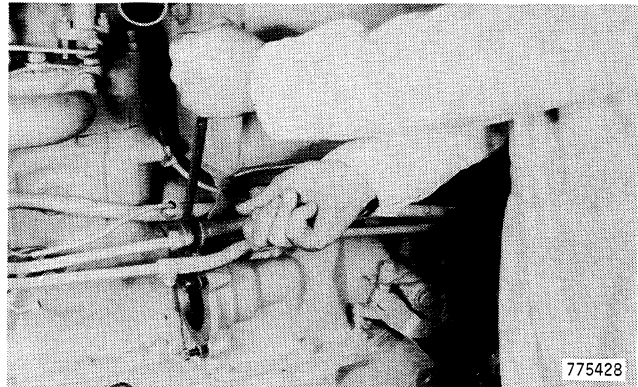

Figure 172
85. Connect the hose to the tube from the steering pump, Figure 172.